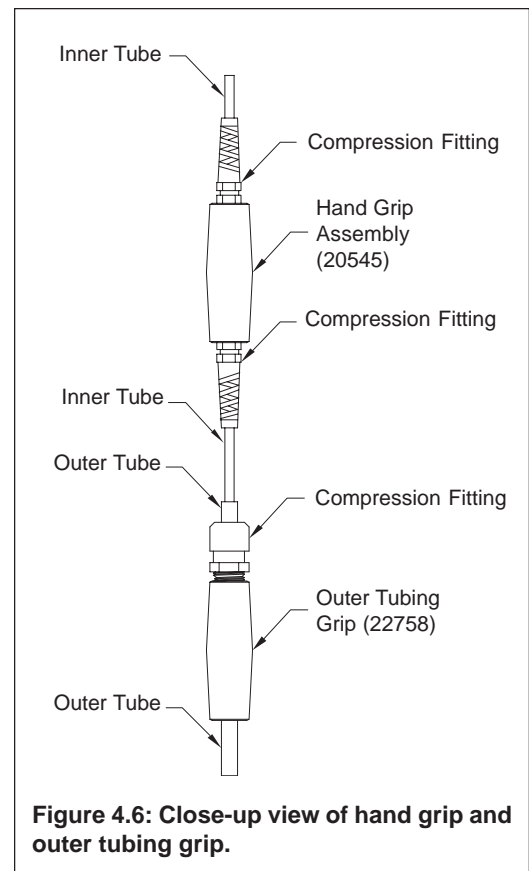

Figure 4.6: Close-up view of hand grip and outer tubing grip.
3. Leading with the end opposite the compression fitting, slide the outer tubing grip over the top end of the tubing set. It may be necessary to loosen the fitting slightly (Fig. 4.6) to allow installation.
5. Secure the grip to the outer tube by tightening the large nut of the compression fitting (Fig. 4.6) until it is “hand tight”. Do not overtighten as this may damage the plastic fitting.
7. Slide the hand grip assembly over the inner tube and position it 1-2 inches (25-51 mm) above the outer tubing grip as shown in Figure 4.6. It may be necessary to first loosen the two compression fittings to allow installation over the inner tube.
9. Slide the hand grip assembly over the inner tube and position it 1-2 inches (25-51 mm) above the outer tubing grip as shown previously in Figure 4.6. It may be necessary to first loosen the two compression fittings to allow installation over the inner tube.